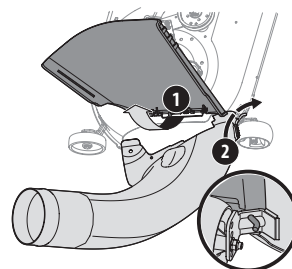

Figure 16
1. With the tractor's discharge chute raised up and held open (1), install the chute elbow by placing the chute elbow mounting rod into the chute mounting tab (2), as shown in Figure 16.